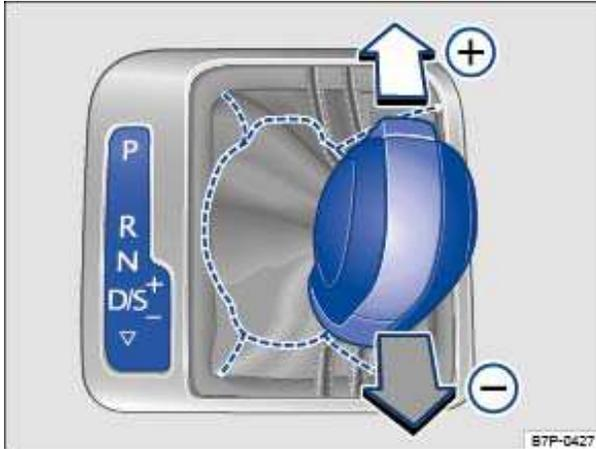

Fig. 245 Selector lever in Tiptronic position.
- Briefly push the selector lever forward (+) to upshift into a higher gear or backward (-) to downshift into a lower gear ⇒ fig. 245.